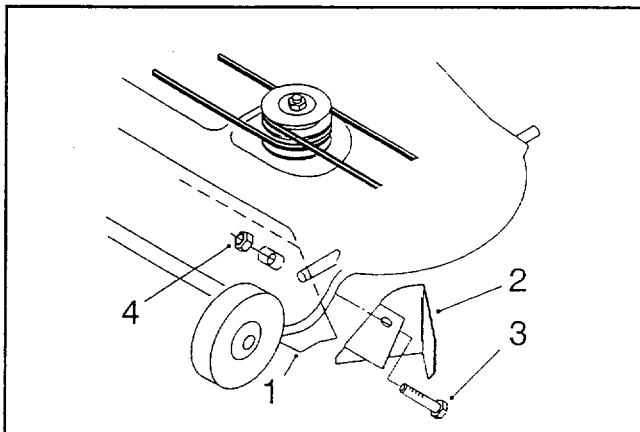

Figure 1
2. Install the grass baffle on the inside of the mower, using a $\frac{3}{8}$ " x 1" hex-head bolt and $\frac{3}{8}$ " nylon lock nut (Fig. 1). Be sure the grass baffle is tight against the underside of the mower. Then rotate the blade to assure it does not hit the baffle. Adjust the baffle if the blade hits it.